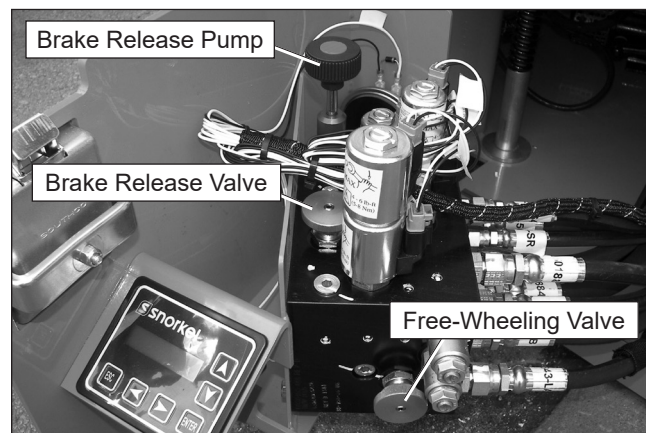

Figure 10.4 – Hydraulic Tray
1. Unlatch and swing out the control valve tray on the right side of the machine. The brake release valve and brake release pump are located on the top of the hydraulic manifold. The free-wheeling valve is on the side of the manifold (refer to Figure 10.4).